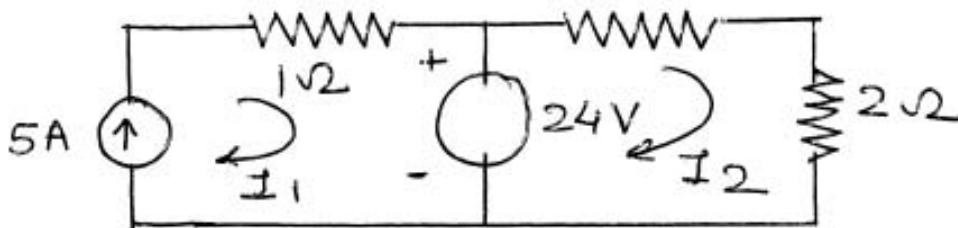

fig. 2 (a)
b) In the circuit shown in figure 2(b) switch k is closed, steady state condition is reached. Now at time $t = 0$, switch k is opened. Obtain expression for current i_L through the inductor.